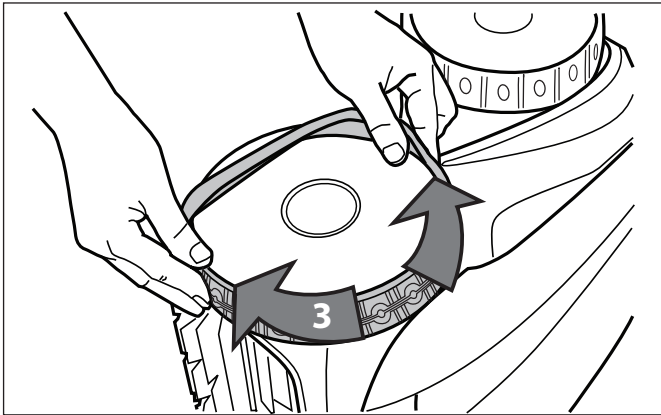

Figure 37. Work the Tyre On Around the Wheel
5. Work the tyre onto the wheel and verify the rib of the tyre is positioned properly within the groove of the wheel (Figure 37).